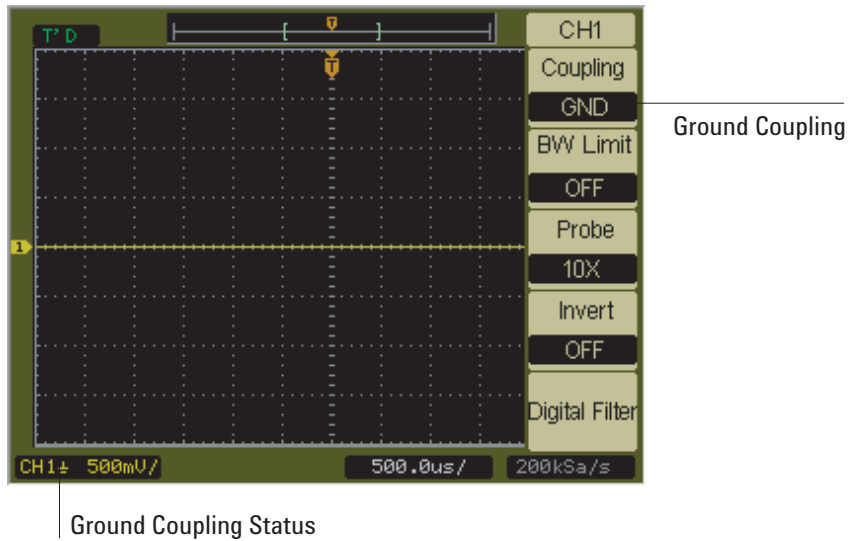

Figure 18 GND Coupling Control
- GND – the waveform is disconnected from the oscilloscope input. See Figure 18.